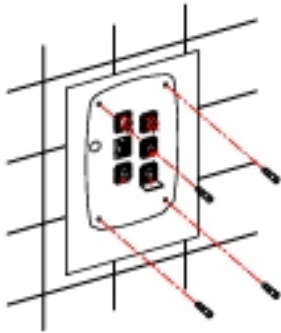

Figure 4
- Make four drill holes 0.31" (8 mm) in diameter in the wall, using the provided template (Figure 4).